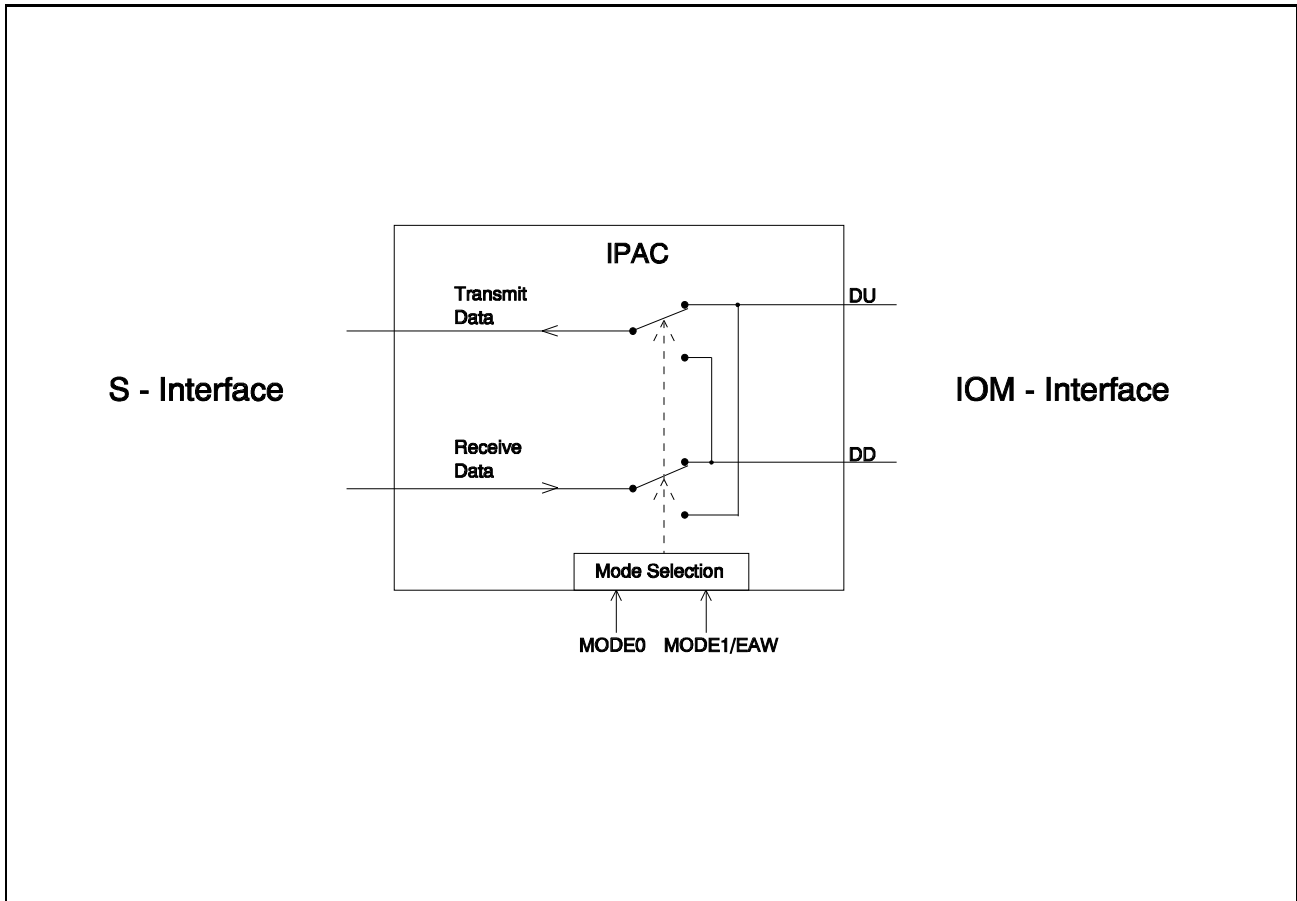

Figure 8
The S-transceiver supports terminal mode (TE), line termination subscriber side mode (LT-S) and line termination trunk side mode (LT-T). The selection is performed by two mode pins (see table 2), additionally the B-channel receive and transmit data paths are switched to DU or DD line depending on the mode (figure 8). In other words, the DU line always carries data which is transferred from the subscriber to the central office and the DD line carries data which comes from the central office to the subscriber. Therefore the direction of DU and DD is mode dependent: